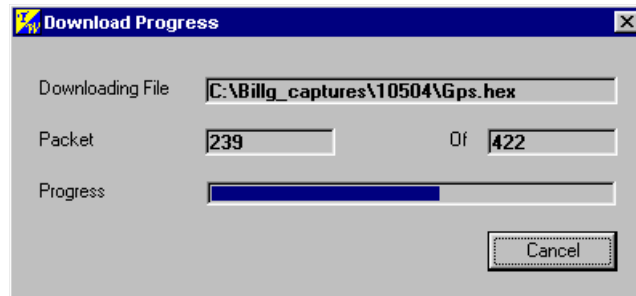

Figure 3-25. The Download Progress Dialog Box
8. Click **Next>>** to start the firmware download operation. The Download Progress dialog box appears, as shown in Figure 3-25.
11. Click **Next>>** to start the firmware download operation. The Download Progress dialog box appears, as shown in Figure 3-25.